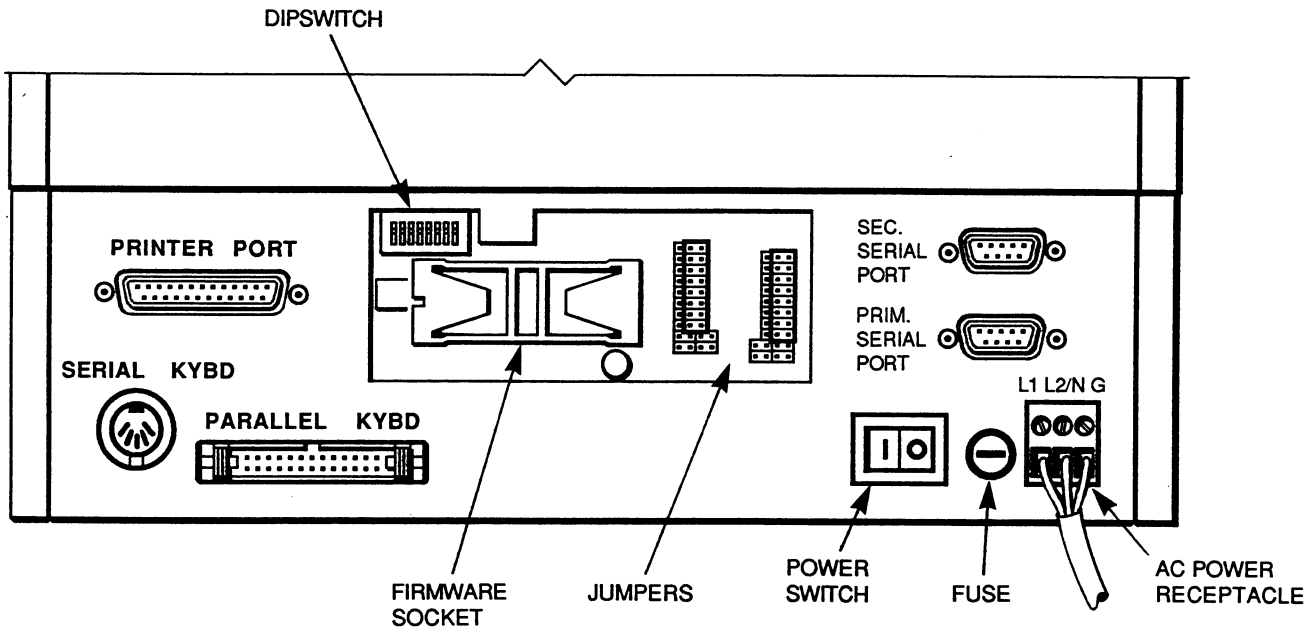

Figure 2-1. 2000 Back Panel
The back panel of the 2000 offers access to the ports, the power assembly, jumpers, switches, and the firmware socket. Figure 2-1 on the next page shows the back panel of the 2000 Industrial Workstation, with the cover plate removed.
3. Locate the firmware socket (see Figure 2-1). Remove the 2000-01 firmware chip.
9. Position switch 3 to ON (or closed) to select EPROM. The system configuration switches are beneath the cover plate on the back panel of the unit (see Figure 2-1).